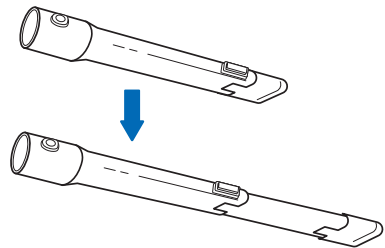

Figure 2.2
- Press button to extend the crevice nozzle (Figure 2.2)